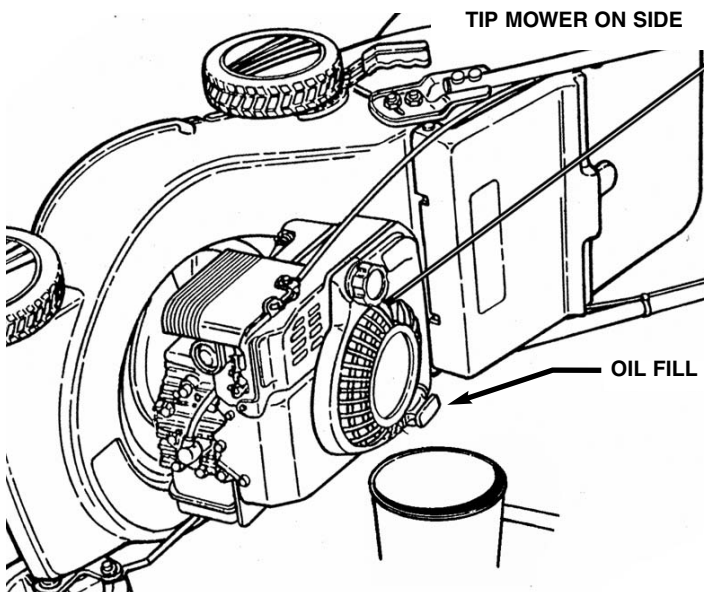

FIGURE 3.1
2. Tip mower on its side, with the oil fill down. Do not tip mower with spark plug or carburetor down. See Figure 3.1.